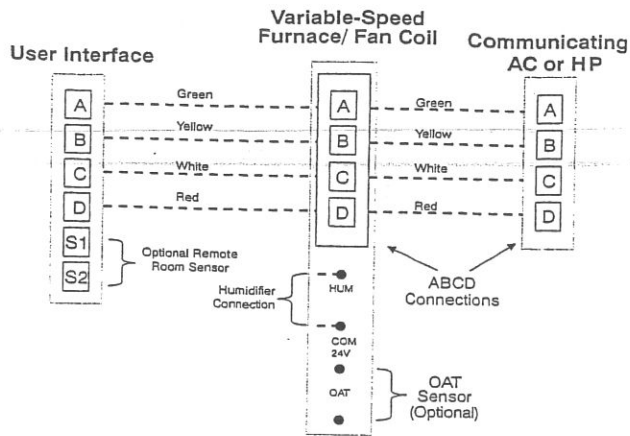

Fig. 11 - Universal Four-Wire Connection Diagram
13. Match and connect thermostat wires to proper terminals on User Interface backplate. See wiring diagram Fig. 11, 12, and 13.
See wiring diagram Fig. 11 which includes an indoor communicating furnace or FE fan coil, with a communicating outdoor unit. No additional OAT (outdoor air temperature) sensor is required because the Evolution Control will use the temperature sensor inside the outdoor unit.